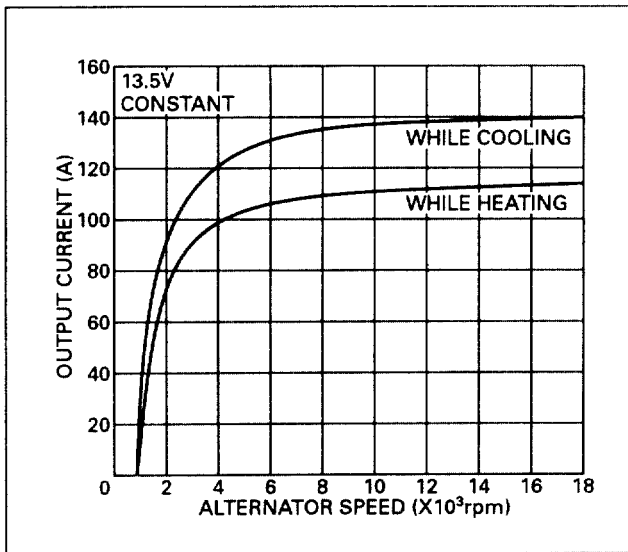

Figure 2 - Standard Characteristics
2. Check the output current. Characteristics of generator are shown in figure 2.